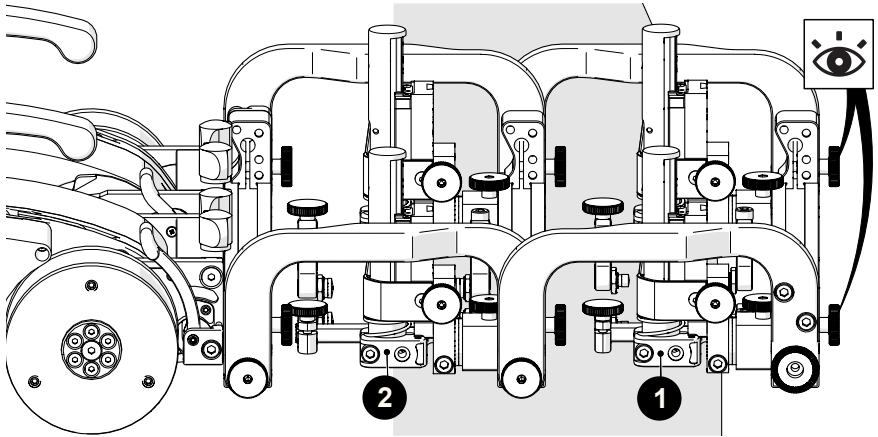

Fig. 233 - Position primary and secondary probe holders
2. Affix the probe holders (with attached wedges) to the probe holder frame. Place the secondary probe holder at the front of the 1 frame and place the primary probe holders at the rear of the 2 frame bar (Fig. 233).
3. Mount the probe holder frame to the crawler (see “Swivel Mount” on page 64 for additional details). When mounting the probe holder frame, ensure the attachment knobs (Fig. 233) are at the front (non-crawler side).